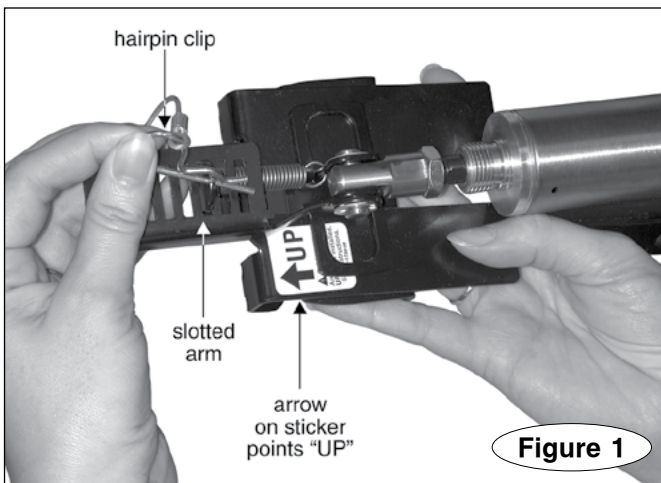

Figure 1
in Figure 1 – the arrow on the sticker will point “Up” when the pedal clamp is properly positioned.
3. Pull the hairpin clip (Figure 1) out, then lift the slotted arm (Figure 1) up and out of the way.
4. Swing the slotted arm (Figure 1) up and out of the way.